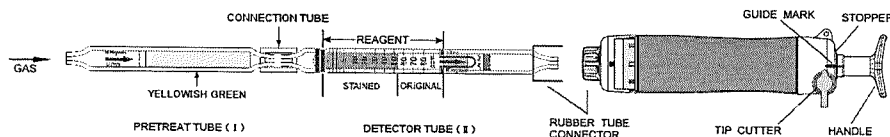

Fig.1
- ① Break both ends of the pretreat tube (I) and detector tube (II), and connect each end of the pretreat tube and detector tube with connecting tube as shown in Fig.1.
- ② Insert the detector tube into the aspirating pump securely as shown in Fig.1. (Arrow mark shall point to the pump.)
- ③ Align the guide marks on the shaft and stopper of the aspirating pump.
- ④ Pull the pump handle at a full stroke until it locks and wait for 2 minutes or until the completion of sampling is confirmed with the flow indicator of the pump. (See descriptions about the flow indicator in the instruction manual of the pump.)
- ⑤ On completion of sampling, read the scale at the maximum point of the stained layer.
- ⑥ When the concentration is below the scale range, 5 pump strokes can be used to determine concentrations of 0.2 to 1 ppm.